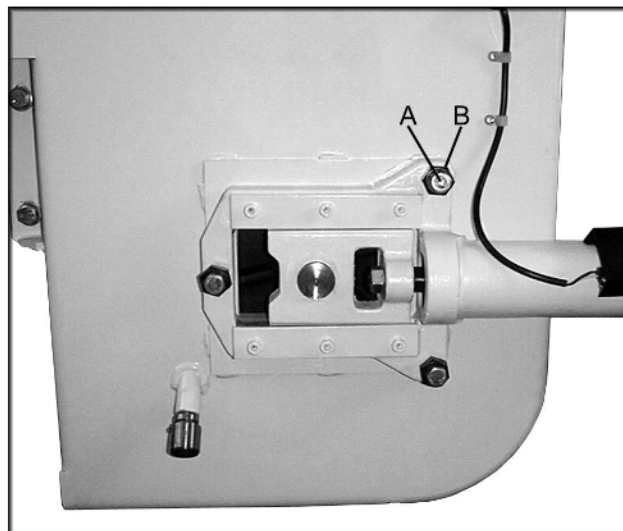

Fig. 12
3. Loosen the three bolts (A, Fig. 12) located on the top of the tracking nuts.
4. Tracking adjustment is accomplished by either loosening or tightening three adjusting nuts (B, Fig. 12).